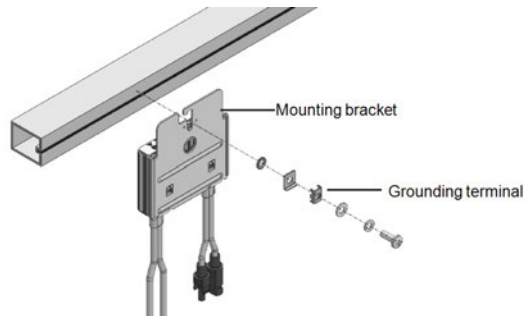

Figure 6: Power optimizer grounding terminal
- **For mounting on un-grounded structures** (such as a wooden structure): If the star washer or the plate cannot be used, use the SolarEdge grounding lug (purchased separately) with an equipment-grounding conductor according to the supplied instructions. The grounding terminal accepts a wire size of 6-14 AWG, and must be sized for equipment grounding per NEC 250.122 requirements. Tighten the screws connecting the power optimizer to the frame and the grounding terminal screw. Apply torque of 9.5 N*m / 7 lb*ft. See *Figure 6*.